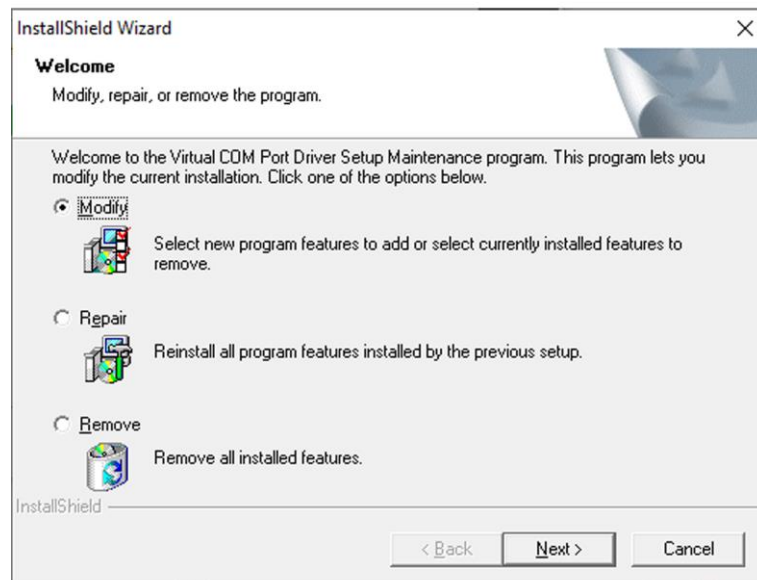

Figure 2.8 - Application installation wizard
2.8. The virtual port installation process will begin, which may take some time. In the installation wizard window that appears (figure 2.8); specify what you want to do: